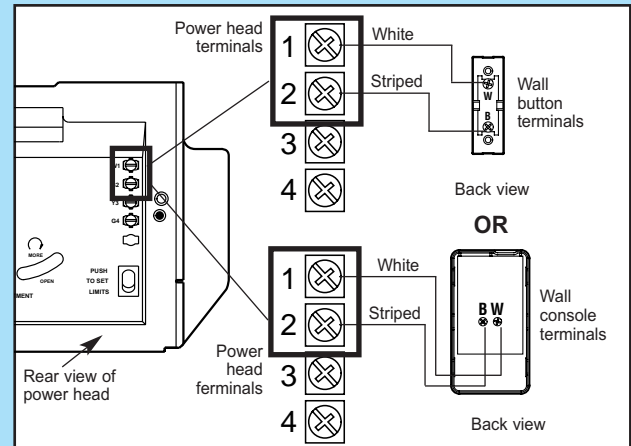
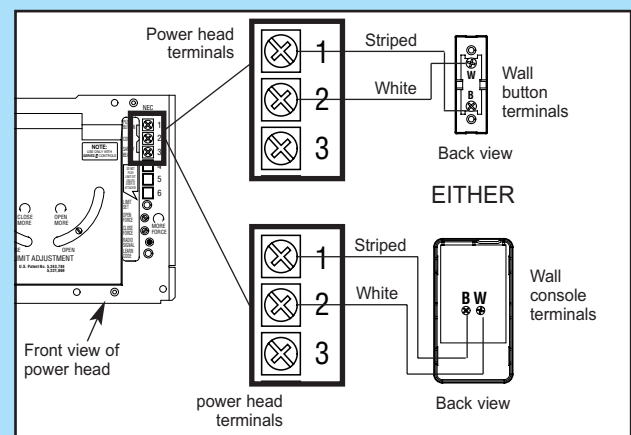

Fig. 4-1a
Fig. 4-1b
3. Attach wires to terminals (Stealth Fig. 4-1a) (MAX Fig. 4-1b).